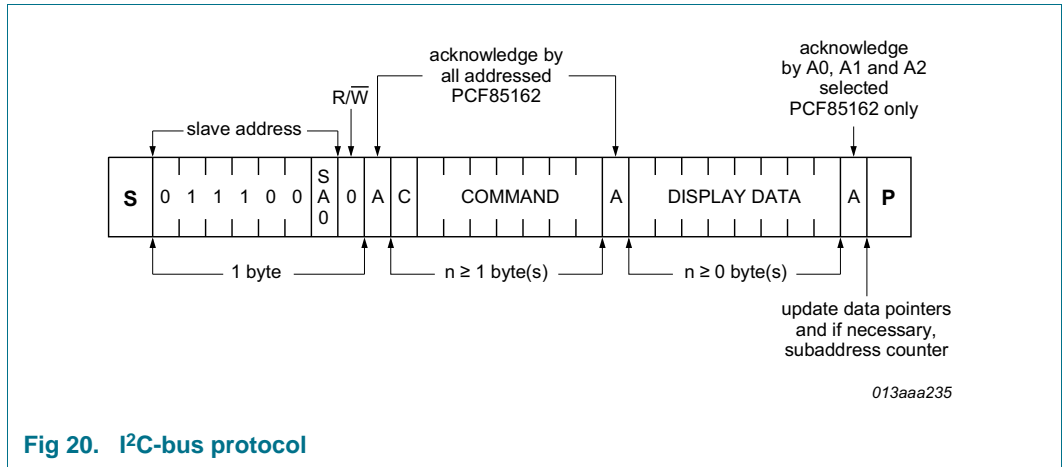

Fig 20. I2C-bus protocol
The I2C-bus protocol is shown in Figure 20. The sequence is initiated with a START condition (S) from the I2C-bus master which is followed by one of the two possible PCF85162 slave addresses available. All PCF85162 whose SA0 inputs correspond to bit 0 of the slave address respond by asserting an acknowledge in parallel. This I2C-bus transfer is ignored by all PCF85162 whose SA0 inputs are set to the alternative level.